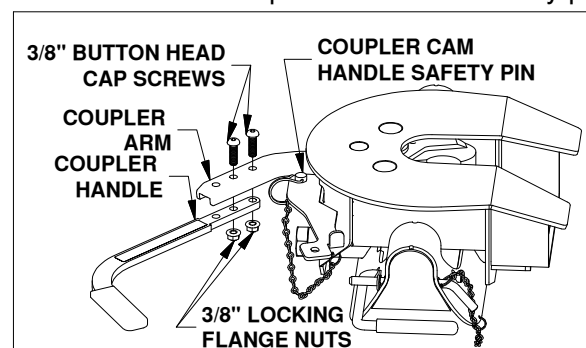

Figure E1: View looking down at side of coupler head.
1. Locate the two 3/8" x 1-1/4" button head cap screws and the two 3/8" flanged lock nuts provided in a bolt bag. Pull out the coupler arm and pin it with the safety locking pin near the base of the arm as shown in figure E1.
Using the button cap screws and the lock nuts, attach the coupler handle to the arm and tighten, see Figure E1. Pull out the coupler cam handle safety pin.